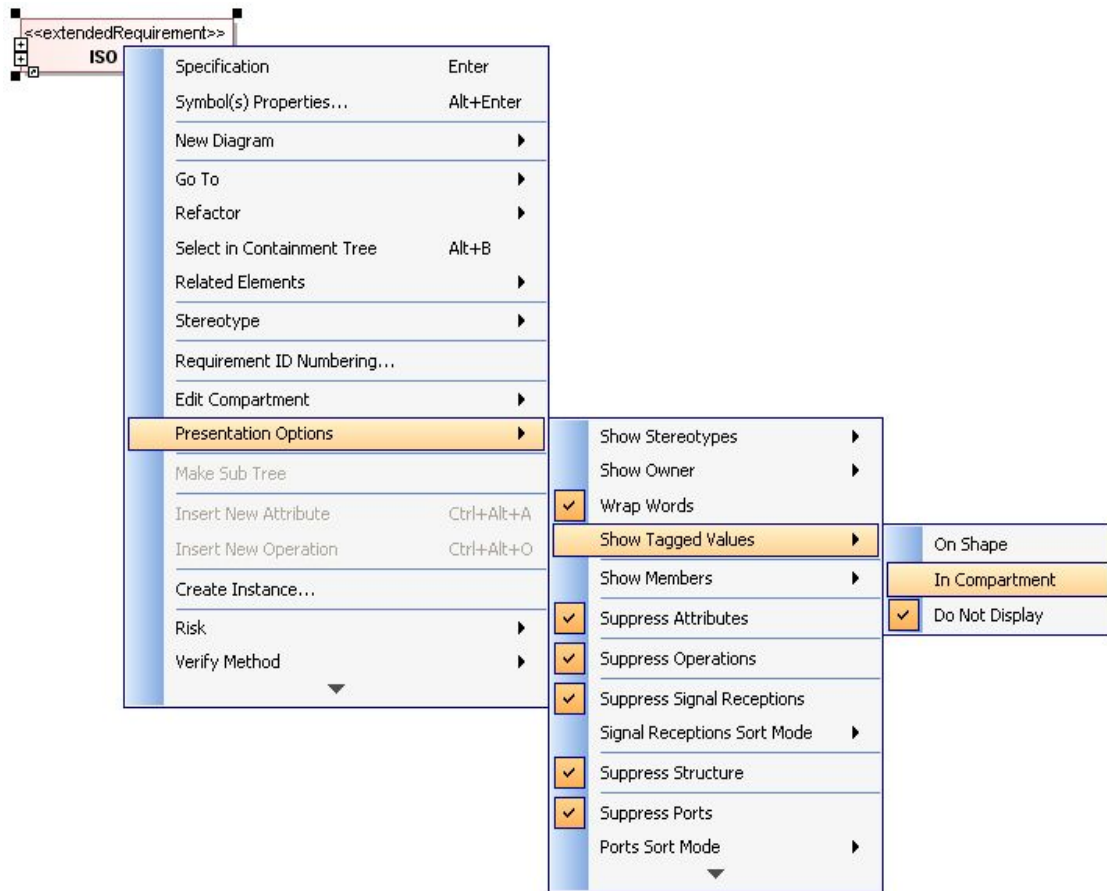

Figure 154 -- Displaying Mode of text and ID
1. Right-click a requirement and select **Presentation Options > Show Tagged Values**. The 3 displaying modes will appear (Figure 154).